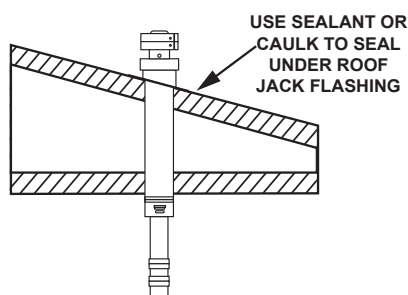

Figure 29: Sealing Roof Jack
5. Use sealant or caulk on the roof to seal under flashing of the roof jack assembly. Use roof nails or screws on wood construction or sheet metal screws on metal roofs (nails and screws not provided). See Figure 29.